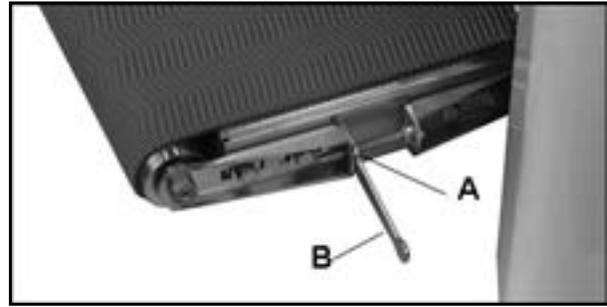

Figure 15
**Belt Tension:** To adjust conveyor belt tension, first adjust take-up screw nut (A, Figure 15) using the attached wrench (B, Figure 15). Do this on both sides of conveyor to obtain approximately equal tension on both sides of the belt when taut. Insufficient belt tension will cause slippage of conveyor belt on the drive roller during sanding operation; the conveyor belt is too loose if it can be stopped by hand pressure applied directly to the top of the conveyor belt. Excessive belt tension can result in bent rollers, bent brackets, and/or premature wearing of the bronze roller bushings or conveyor belt.
**Belt Tracking:** Belt tracking adjustments are made while the conveyor belt is running. After the proper belt tension is obtained, turn the conveyor unit on and set it at the fastest speed setting. Watch for a tendency of the conveyor belt to drift to one side of the conveyor. To adjust the belt tracking, tighten the take-up screw nut (A, Figure 15) on the side the belt is drifting toward, and loosen the take-up screw nut on the opposite side. Adjusting the take-up screw nuts on either side of the conveyor allows belt tracking adjustments to be made without affecting belt tension.
3. Loosen conveyor take-up screw nuts (A, Figure 15) to relieve belt tension, and slide the driven roller fully inward.